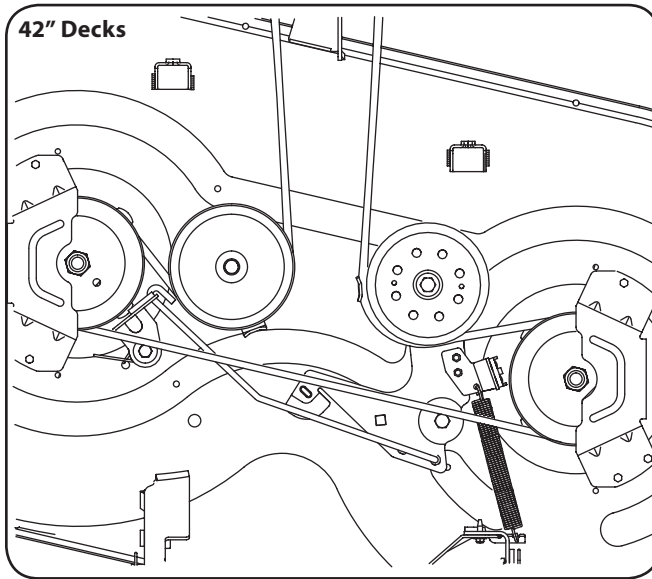
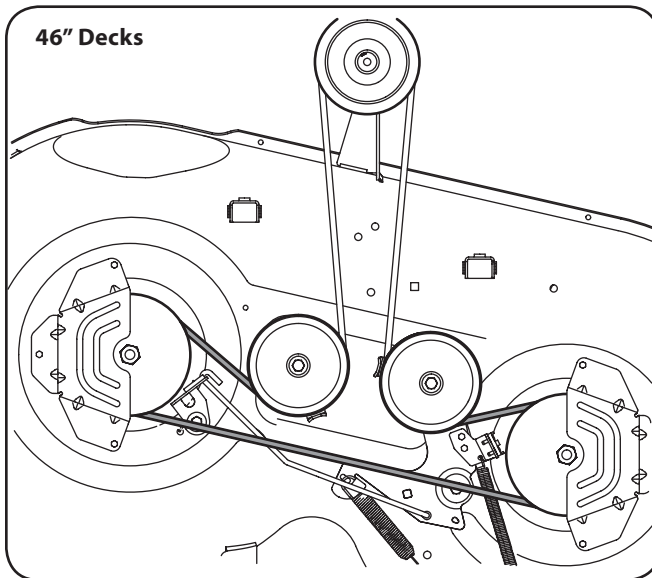
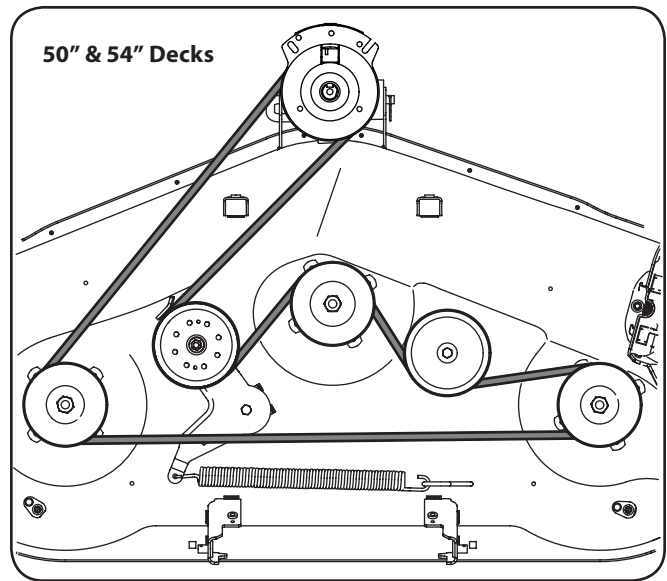

Figure 7-7
Figure 7-8
Figure 7-9
4. Route the new belt as shown in the applicable figure on the following pages. See Figure 7-7 for 42" decks, Figure 7-8 for 46" decks and Figure 7-9 for 50" & 54" decks.